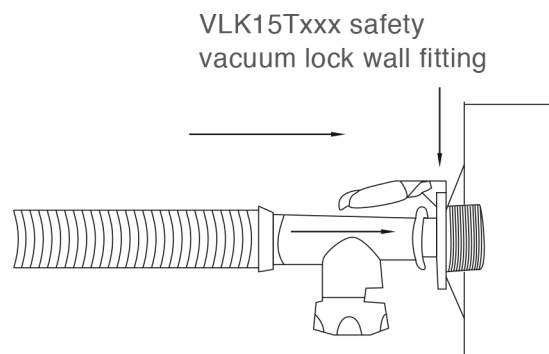

Fig. 5
- B. The wall port safety vacuum lock without a three-way or ball valve (see Fig. 5)